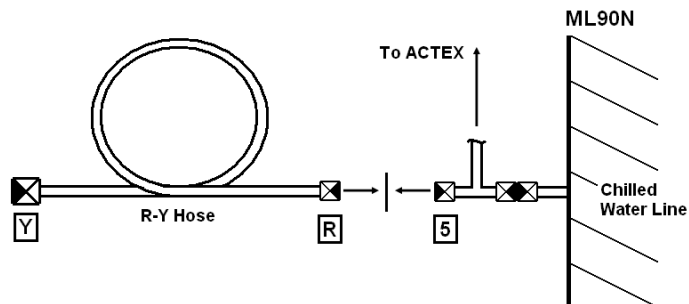

Figure 10-4.- R-Y Hose connection at ML90N.
2. Connect red end of R-Y Hose to free end of tee attached to Chilled Water Line QD (#5) at QD bracket (see fig 10-4)